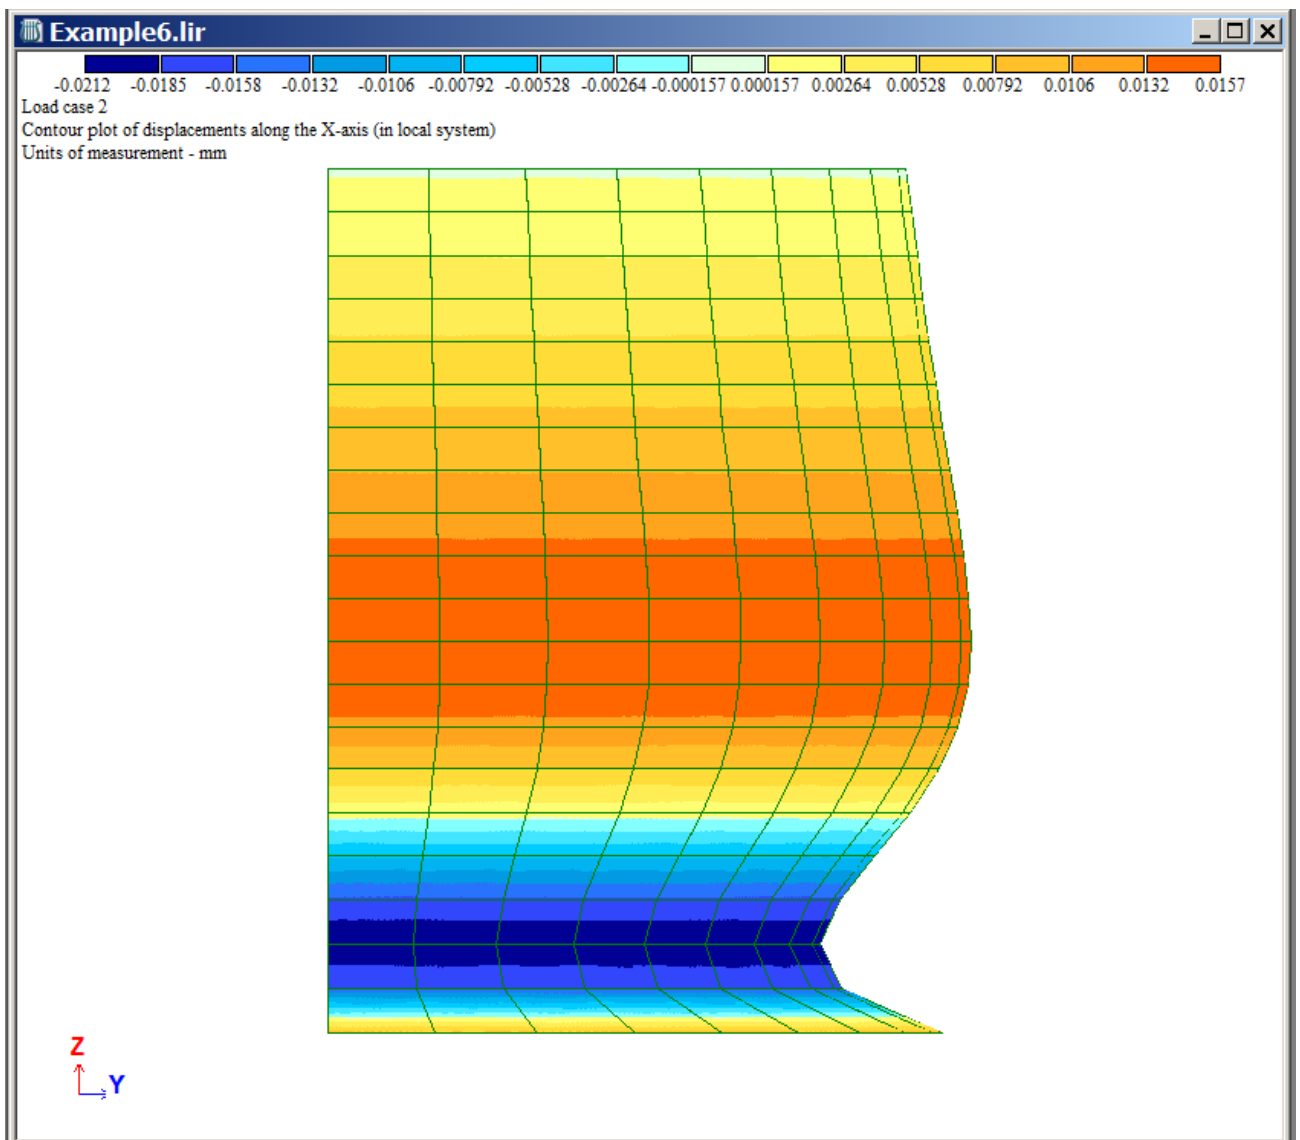

Figure 6.18 Displacement contour plot along the local X-axis in elements of the tank web
- ⇒ To present design model in projection on the YOZ-plane (see Fig.6.18), on the **Projection** toolbar (by default, it is displayed at the bottom of the screen), click **Projection on YOZ-plane** .